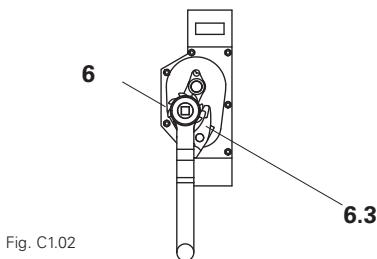

Fig. C1.02
4. Check the free movement of the Winch (6). Winch must not slip on the toothed track or be sluggish when used.
5. The locking pawl (1.3) on the winch (6) must be checked for functionality. The locking pawl must close automatically. (Fig. C1.02)